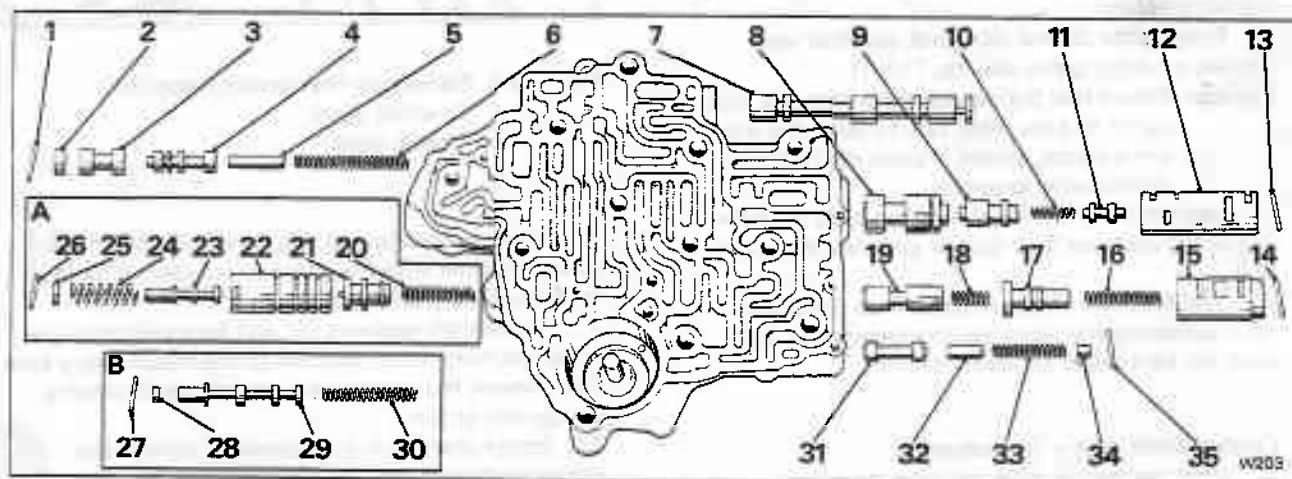

Fig. T13-2 Control valve unit
1. Hold the control valve unit with the cored passages uppermost and the accumulator piston bore to the front, as shown in figure T13-2.
Before commencing assembly, ensure that all springs can be positively identified. If the springs are assembled incorrectly the transmission will not function correctly. During assembly reference should be made to figure T13-2.